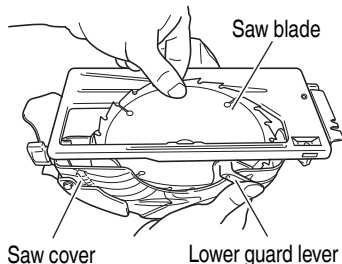

Fig. 16
- (3) While holding the lower guard lever to keep the lower guard fully retracted into the saw cover, remove the saw blade (Fig. 16).